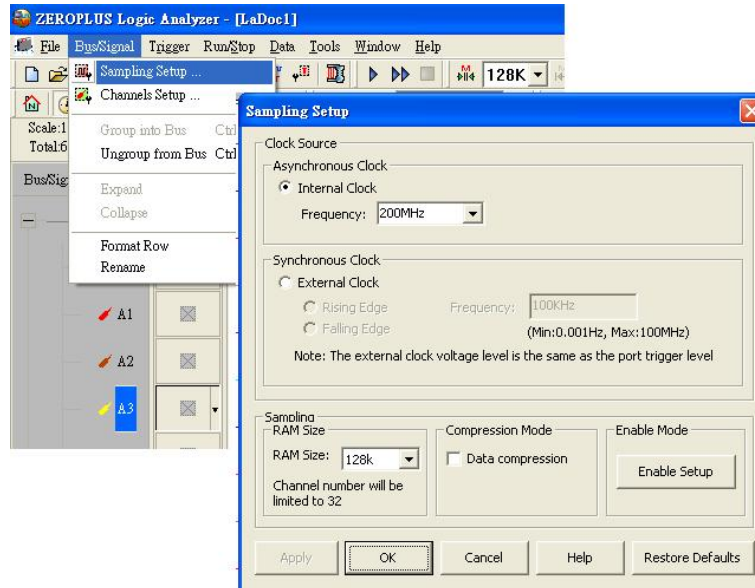

Fig 4-1 – Clock Source
Step 1. Click  icon or Click Sampling Setup from Bus/Signal on the menu bar, the dialogue as shown in Fig 4-1 will appear.